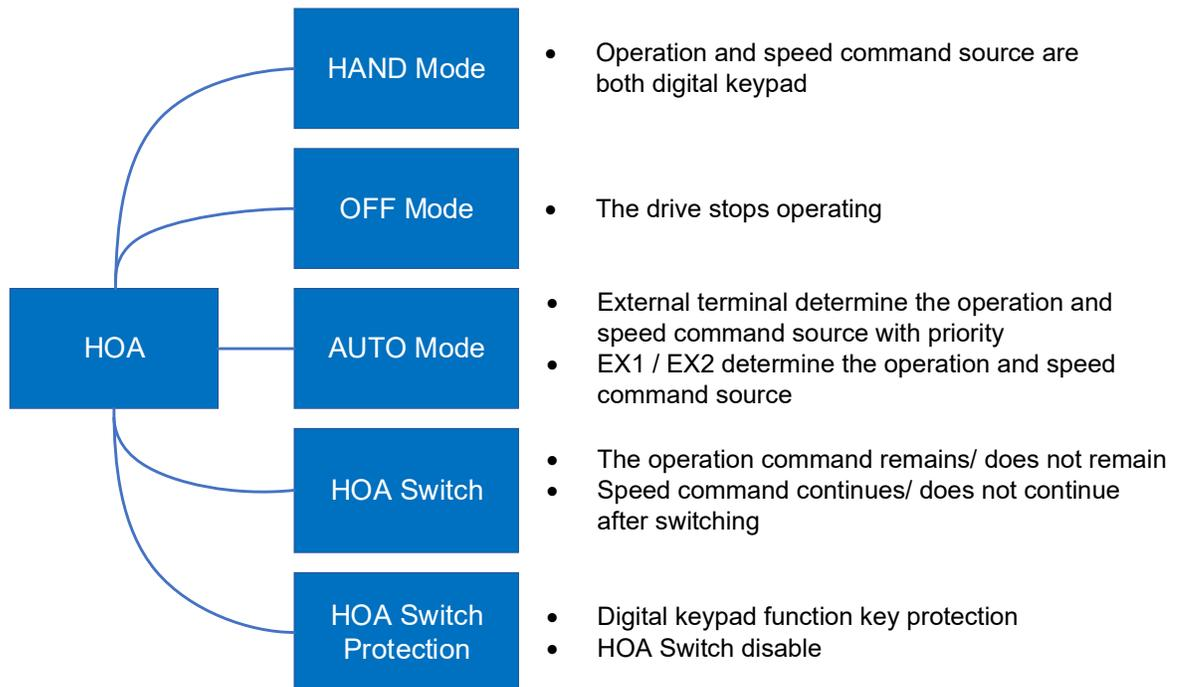

Figure 1: HOA function
-  0: Standard HOA (Hand-Off-Auto) function, refer to Figure 1 below.